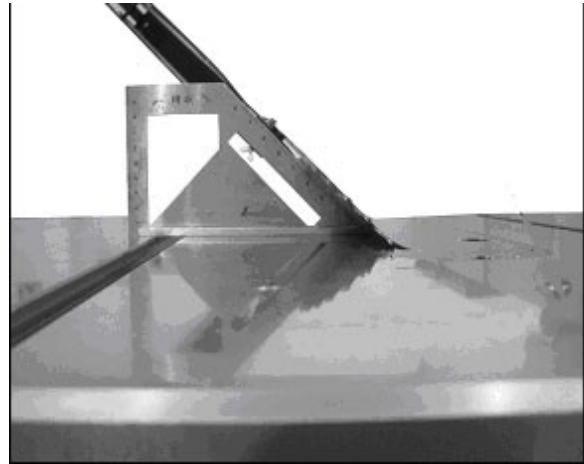

Figure 12
3. Tilt the blade to 45 degrees as shown in Figure 12. Push and hold the 45° set button as shown in Figure 15 until the display stops blinking. At this point the angle display is calibrated.